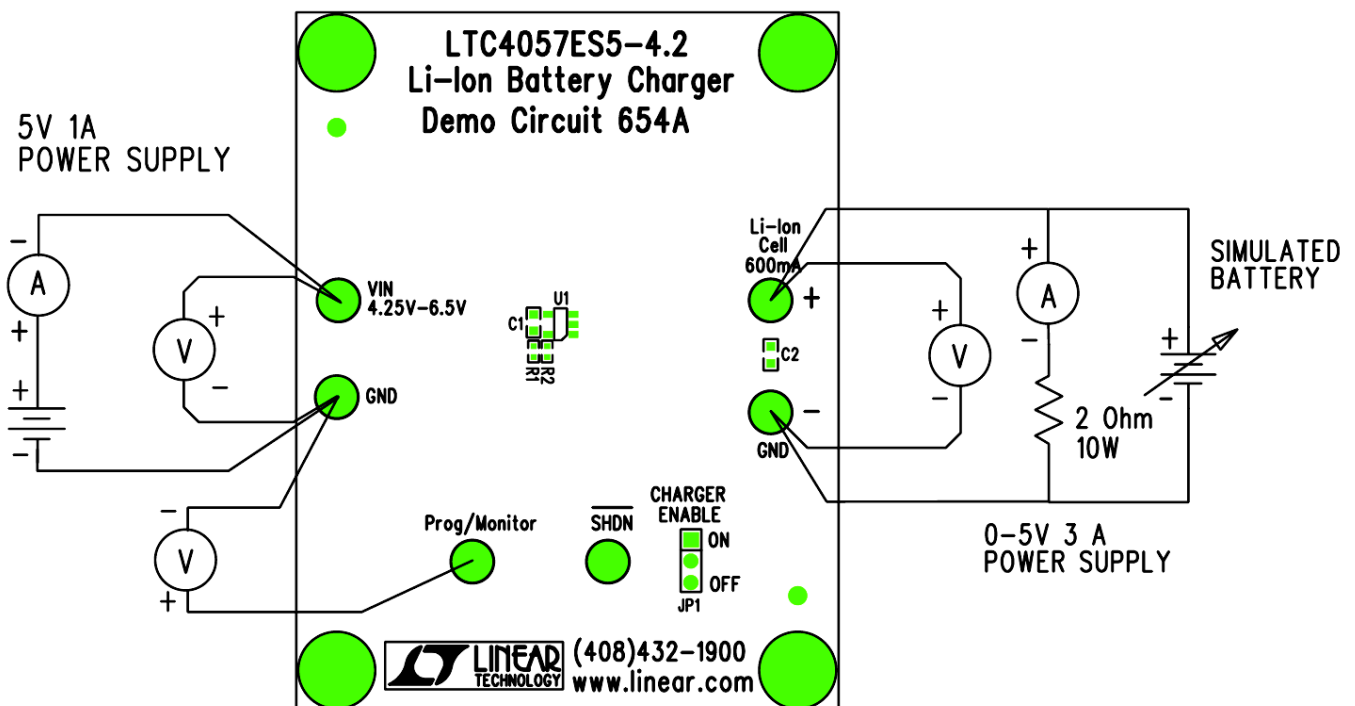

Figure 1. Proper Measurement Equipment Setup
Demonstration circuit 654 is easy to set up to evaluate the performance of the LTC4057. Refer to Figure 1 for proper measurement equipment setup and follow the procedure below:
1. With power off, connect the input power supply, output load and meters as shown in Figure 1.